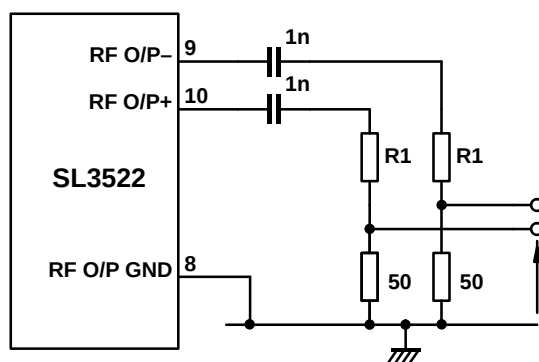
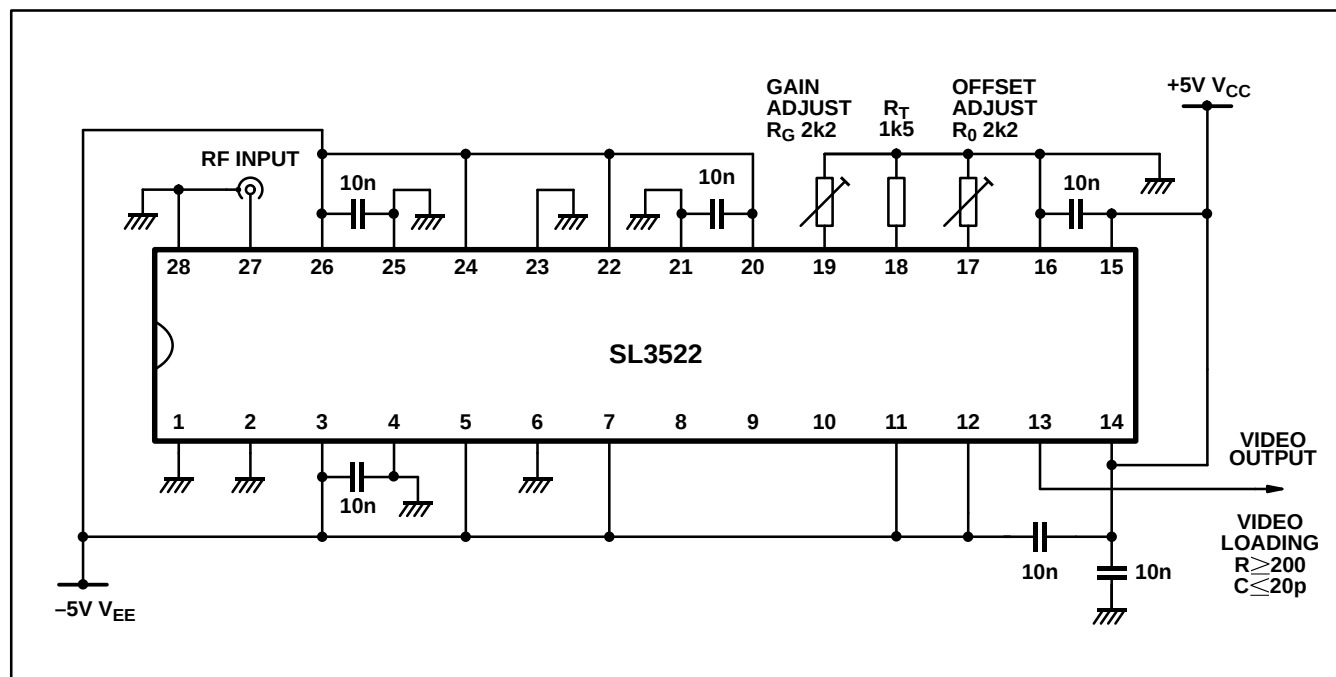

Fig. 9 Network for attenuating limited RF output
Fig. 5 Application circuit successive detection logarithmic function only
a) Gain and Offset trimming (ref Applications circuits in figs 5 and 6)
If the SL3522 is to be used as a Logarithmic successive detection amplifier only, with no requirement for a limited RF Output, the RF input (pins 27 and 28) can be driven EITHER differentially or single ended from a 50Ω source. If being used with a single ended input, the SIGNAL should be applied to pin 27 and the RETURN should be connected to pin 28, as shown in the Application circuit diagram in Fig 5.
If required the limited RF Output can be attenuated using an attenuation network as shown in fig. 9. Under these conditions the effective RF Output currents will be reduced, allowing the device to operate with a greater margin of stability. It may be possible to run the device without a BALUN transformer on the RF input if the total output impedance on the RF Output $\gg 50\Omega$, and the attenuation components are mounted as close as possible to the RF Output connections (pins 9 and 10). The RF input connection could then be configured as in Fig 5.